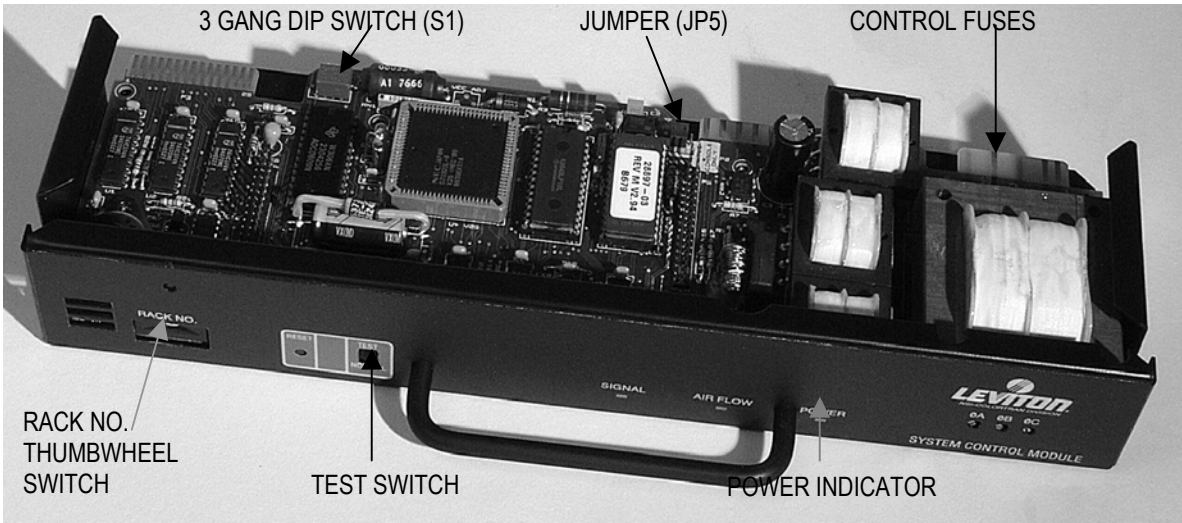

Figure 6 - Remote Control Module
- Set the 3 DIP switches labeled S1 on the printed circuit board (See Figure 6) as follows:
- Set the thumbwheel switch(es) on all TOPAZ 24 control modules according to Table III on next page. See Figure 6 (Pack 1 is usually the left-most pack).
- Apply power to the rack. Power indicator LED should be lit on each control module. If the LED is not lit or is flashing, at least one control fuse is blown or one power leg has no voltage present. See Figure 6.
- Switch the test switch on each control module to the TEST position. See Figure 6. This will turn on the fan.